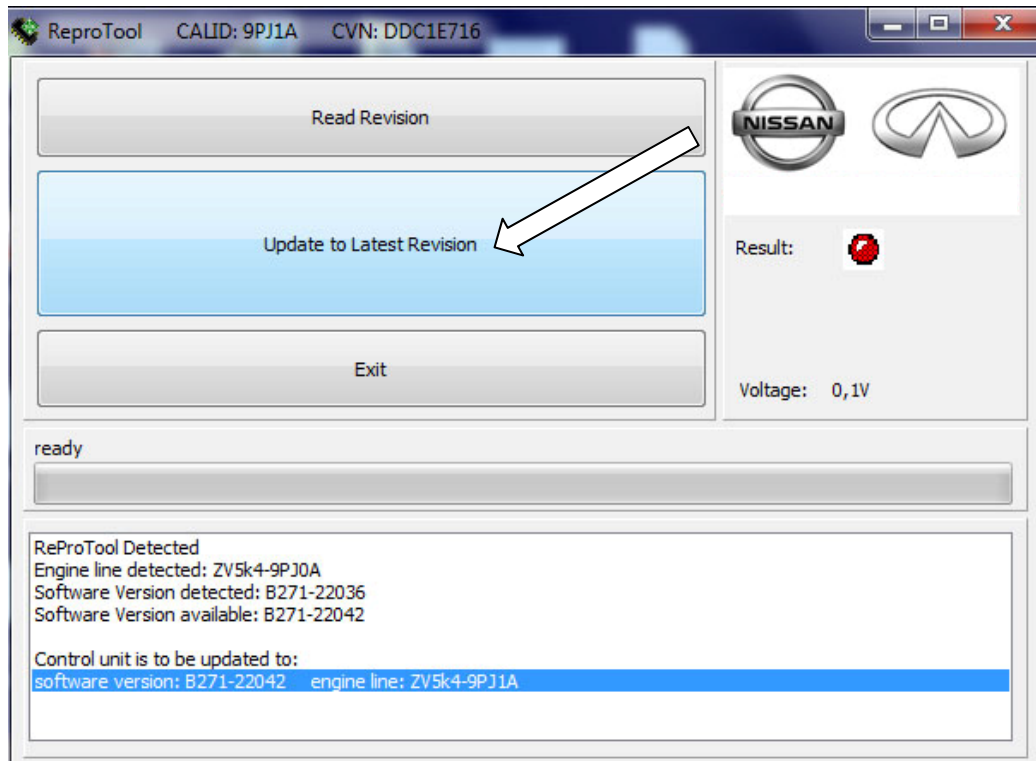

Figure 11
20. Select the "Update to Latest Revision" button as shown in Figure 11.